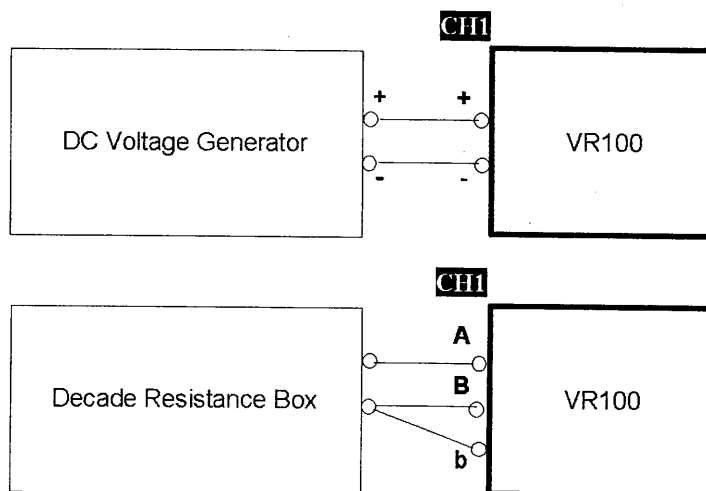

Figure 2.1 Connection diagram
- 1 Connection the equipment as shown in Figure 2.1